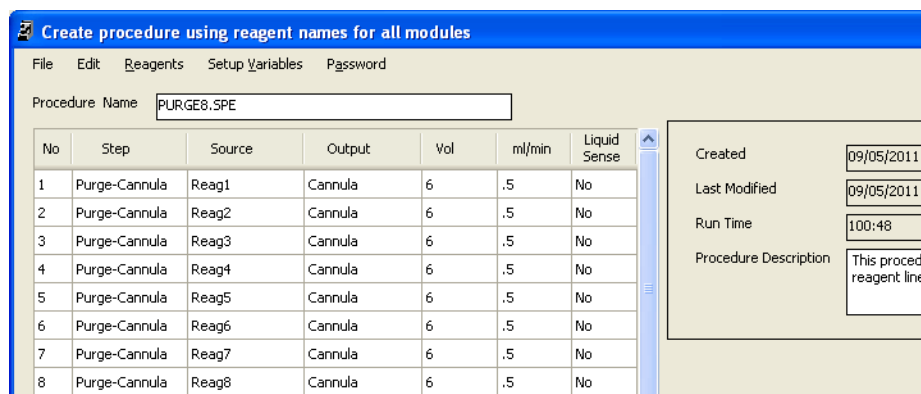

Figure 48. Purge Reagent Lines
- 2 Write a procedure to purge the reagent lines taking the miscibility of the reagents into account. An example of a procedure for eight reagents is shown Figure 48.